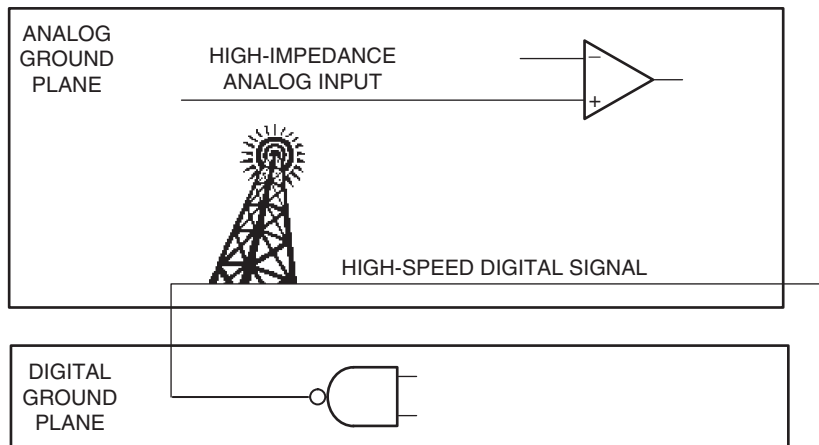

Figure 23.4: Broadcasting from PCB traces.
- It is important to keep digital signals away from analog portions of the circuit. It makes little sense to isolate planes, keep analog traces short, and place passive components carefully if high speed digital traces are running right next to the sensitive analog traces. Digital signals must be routed around analog circuitry and not overlap analog ground and power planes. If not, the design will include a new schematic symbol shown in Figure 23.4, the broadcasting antenna! Most digital clocks are high enough in frequency that even small capacitances between traces and planes can couple significant noise. Remember that it is not only the fundamental frequency of the clock that can cause a potential problem but also the higher frequency harmonics.